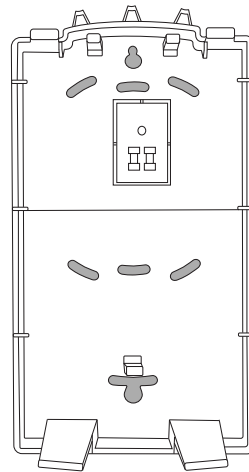

Figure 2: Mounting Holes
3. Use the included screws in the mounting hole locations to secure the 738T to the wall or other flat surface. See Figure 2.